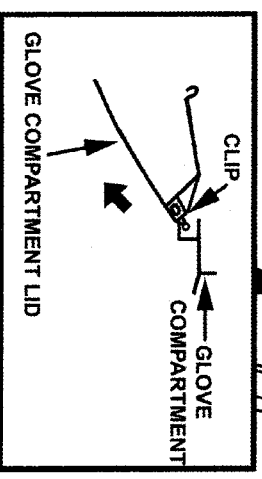

FIGURE 21
- 3.) PULL THE GLOVE COMPARTMENT LID OUTWARD WHILE LOWERING IT TO THE POSITION AS SHOWN THEN DETACH THE CLIP AND REMOVE THE GLOVE COMPARTMENT LID. (SEE FIGURE 21)